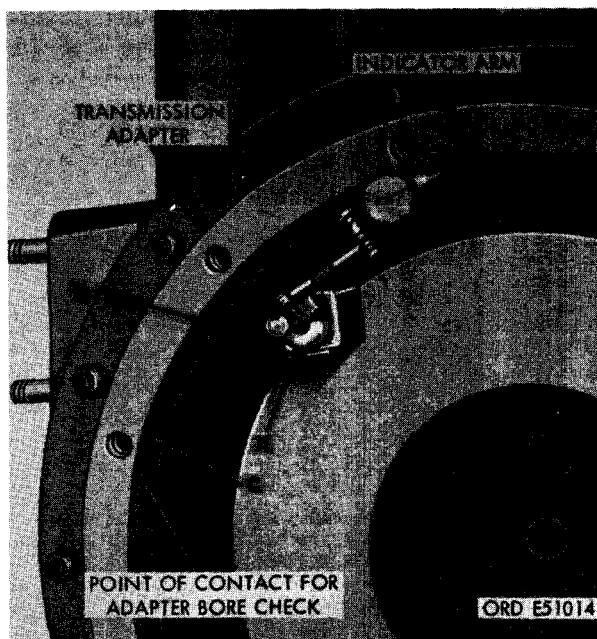

FIGURE 162. CHECKING TRANSMISSION ADAPTER FACE AND BORE RUNOUT USING A DIAL INDICATOR.
- (2) Figure 162. (A) Mount a magnetic base dial indicator on face of flywheel. Set dial indicator arm against transmission adapter face. (B) Turn the crankshaft one complete revolution and check adapter face runout. Exert pressure against flywheel to eliminate the possibility of crankshaft end play causing a false reading. Maximum runout should not exceed 0.008- inch.
- (6) Check transmission adapter face runout following instructions for figure 162.